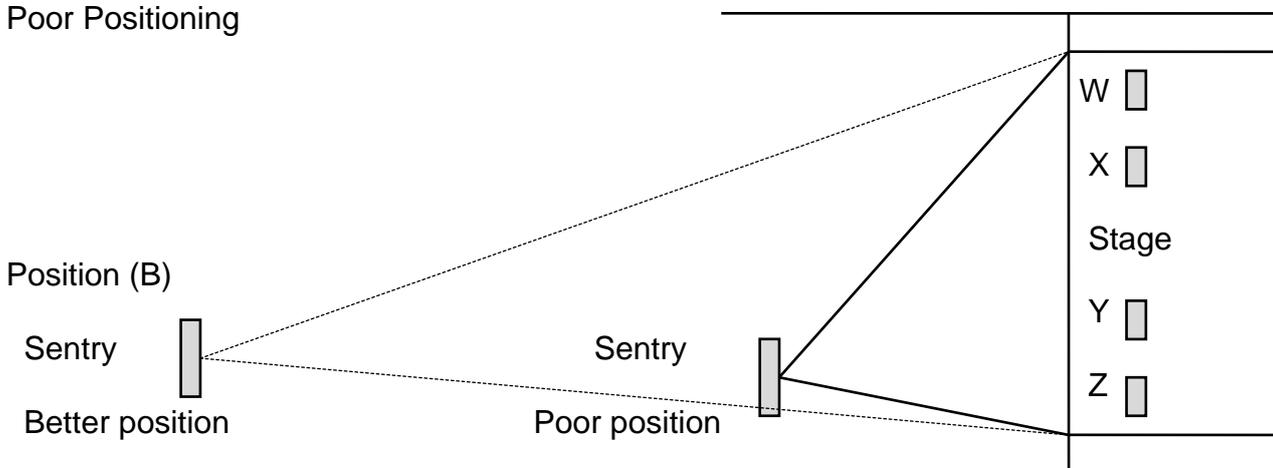

Fig 2
In Fig 2 the instruments Y & Z will appear louder to the display unit than instruments W & X. Moving the display unit back away from the stage to position (B) will minimise the problem.